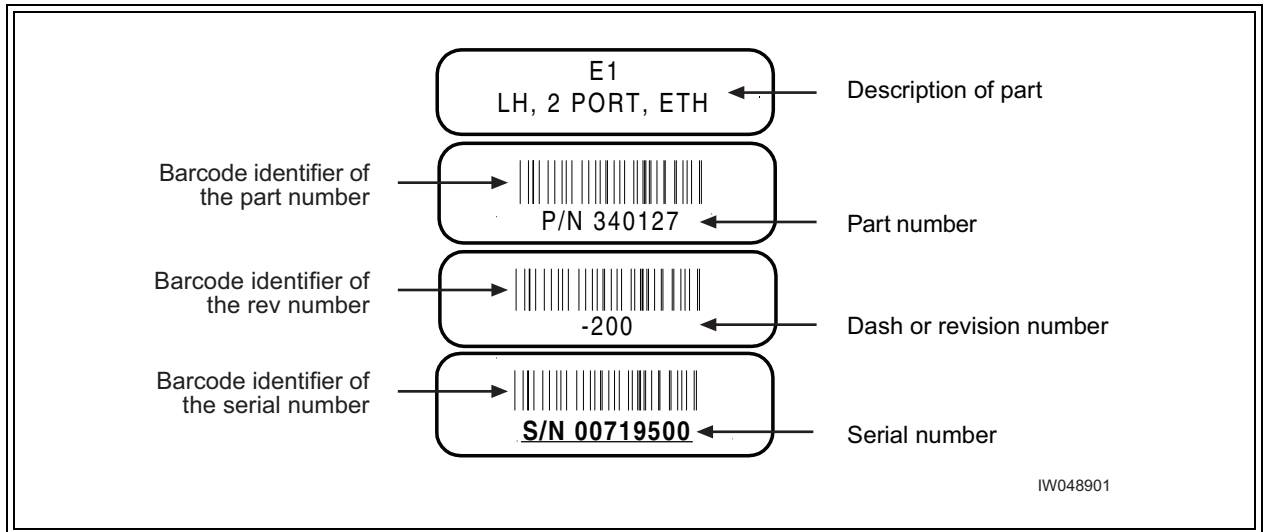

Figure 1-4 Sample Configuration Labels
An example of the configuration labels appears in Figure 1-4:
- 1 Locate the configuration part and serial numbers on your RF modules. Figure 1-4 illustrates a sample of these labels.